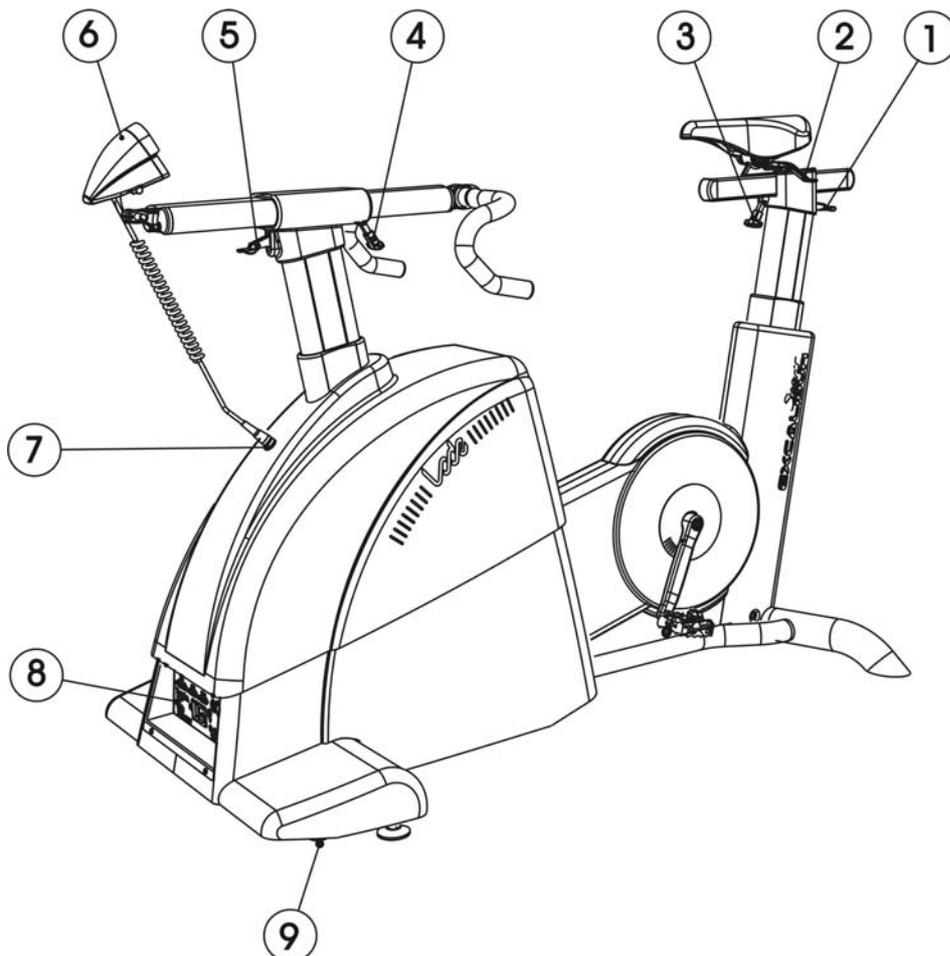
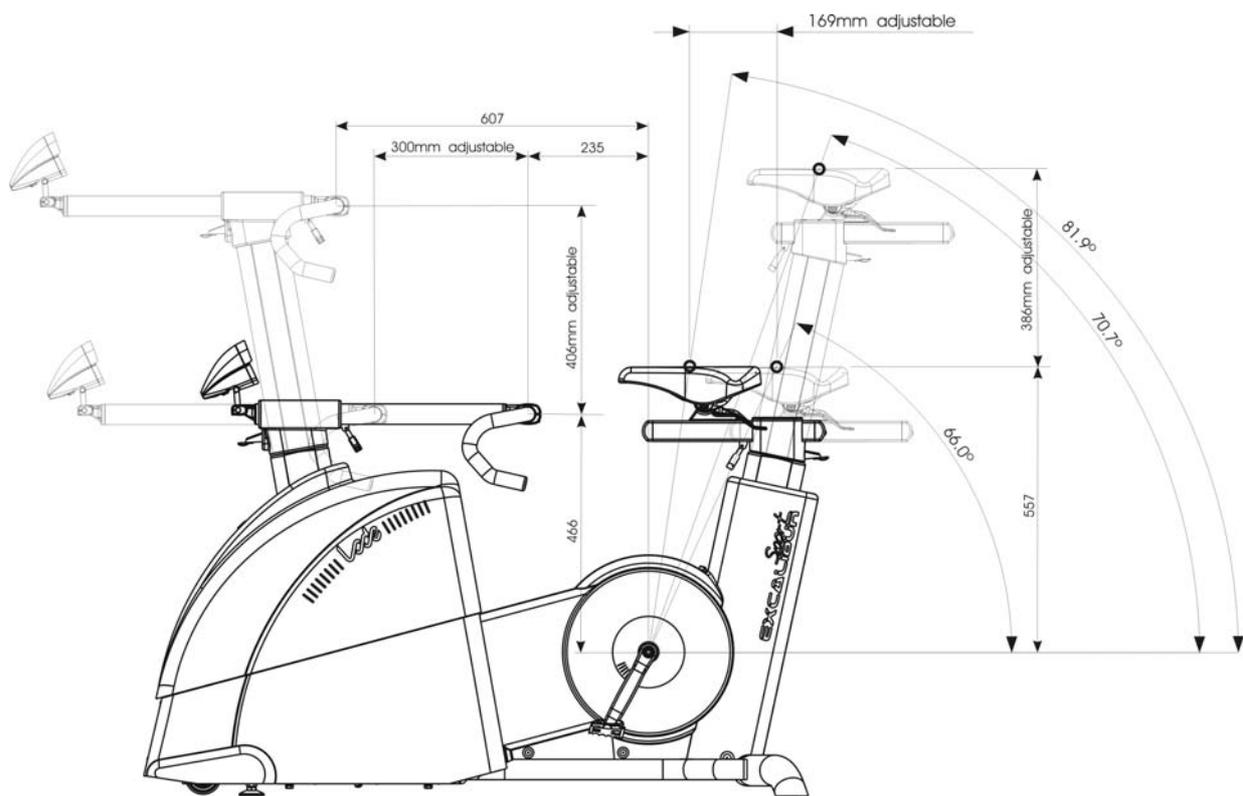

Fig 6: Excalibur Sport ergometer
Fig. 10 Dimensions
The ergometer is adjustable to test subjects of all sizes and ages. See §2.1 figure 6 item 1 – 5. For the exact dimensions of the adjustability see figure 10.
Moving the ergometer can be done by lifting the horizontal saddle track (fig 6). The two transport wheels on the front side of the ergometer can be used to ride the ergometer to its location.